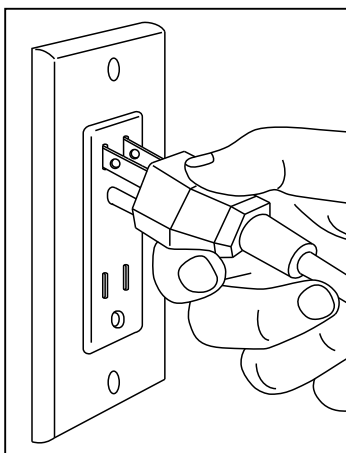

figure 1
1. Plug-in the sander's AC power cord to the power source (110Va.c. output). The warning "beep" sounds would be occurred after the plug is securely plug-in to the power source and the LED indicator shows "Solid Red" color at the moment.- see figure 1.